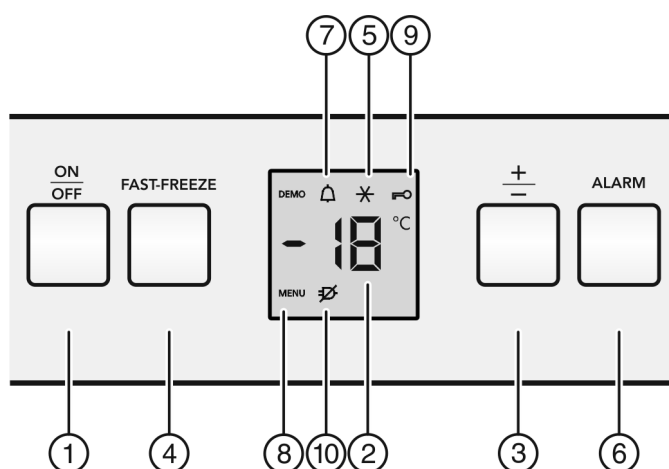

Fig. 2
- ▶ Press the On/Off button *Fig. 2 (1)*.
- ▷ The appliance is switched on. The temperature display and Alarm symbol *Fig. 2 (7)* flash until the temperature is cold enough.
- ▶ Press the Fast-Freeze button *Fig. 2 (4)* for approx. 5 seconds.
- ▷ The menu symbol *Fig. 2 (8)* is indicated in the display.
- ▶ Briefly confirm using the Fast-Freeze button *Fig. 2 (4)*.
- ▷ The child lock symbol *Fig. 2 (9)* illuminates in the display.
- ▶ Briefly press the ON/OFF button *Fig. 2 (1)*.
- ▶ Press alarm button *Fig. 2 (6)*.
The temperature display and the alarm symbol *Fig. 2 (7)* flash at the same time.
The audible alarm is automatically silenced, the alarm symbol *Fig. 2 (7)* goes out and the temperature display stops flashing when the temperature is sufficiently cold again.